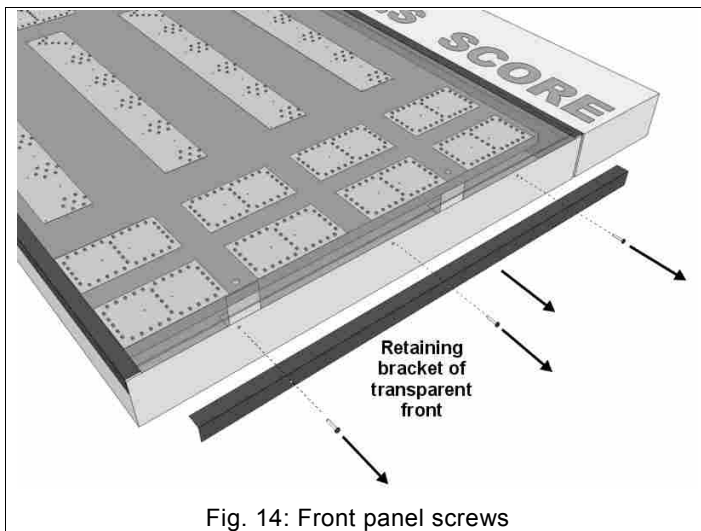

Fig. 14: Front panel screws
2. With a Phillips screwdriver remove a side bracket from the module containing the board in need of replacement; do this by unscrewing the three screws located on the side bracket (Fig. 14).